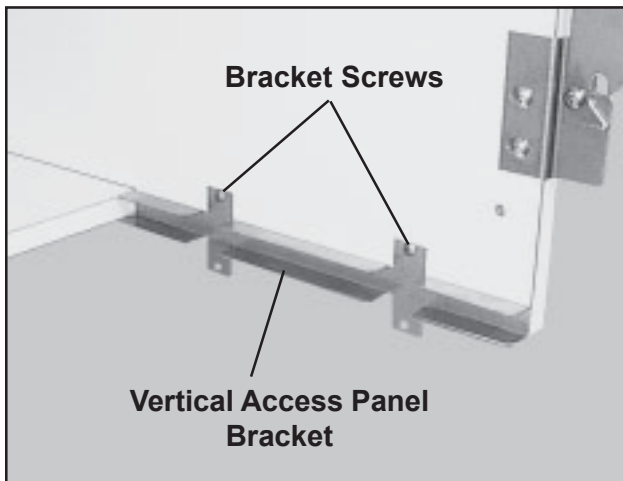

Figure 51. Vertical Access Panel Bracket
3. With a Phillips screwdriver, remove the two bracket screws (Figure 51).